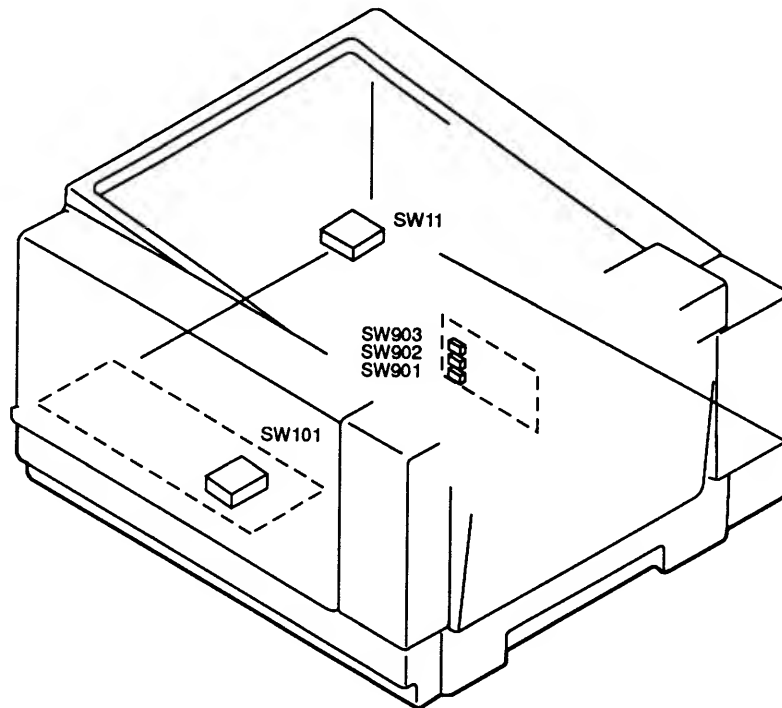

Figure 4-10 Switches
6. Using a metric ruler, measure the width of the glossy band on the paper. The band should be 2 to 3 mm wide at its center (**Figure 4-10, measurement b**) and should extend no more than .5 mm at the top or bottom edge (**Figure 4-10, measurements a and c**).